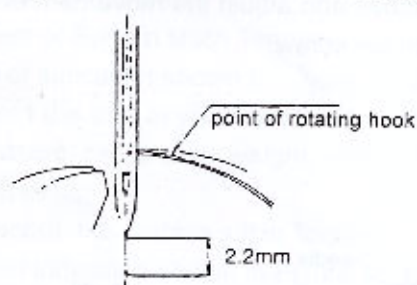

Figure 20
(1) Manually so to raise the needle (In case of double curvilinear stitches, the needle is referred to the one on the right side, The same below) by 2.2mm from the lower limit, when the point of rotating shuttle would be at the central line of the needle. (See Figure 20)